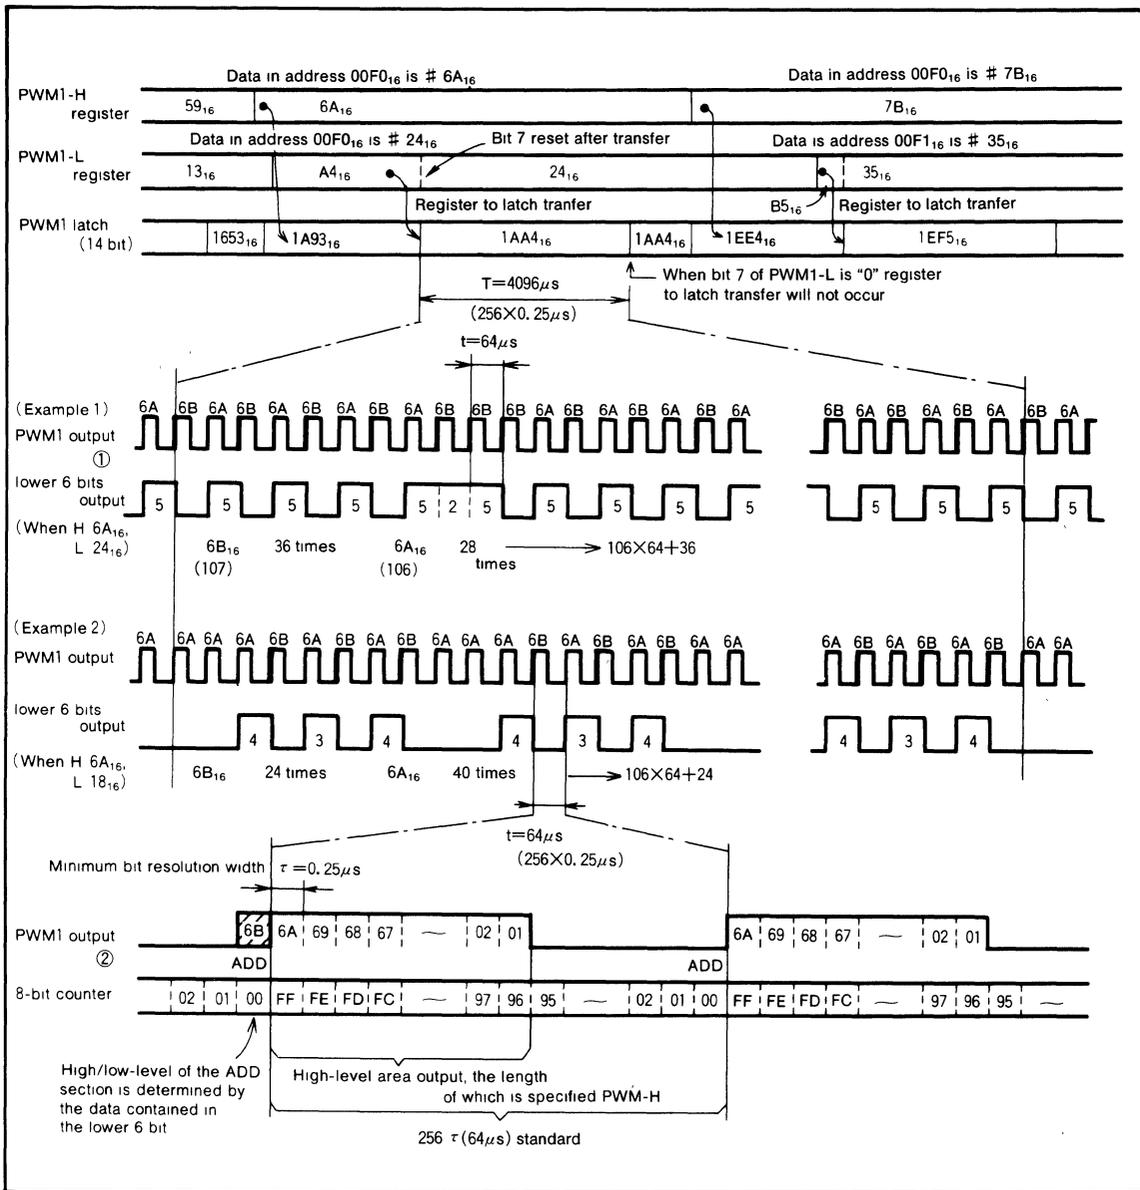

Fig.15 14-bit PWM timing diagram
The timing diagram of the 14-bit PWM1 is shown in Figure 15. The 14-bit PWM divides the data within the PWM latch into the lower 6 bits and higher 8 bits.
A high-level area within a length N times τ is output every short area of $t=256\tau=64\mu\text{s}$ as determined by data N of the higher 8 bits. (Refer to PWM output ② in the lower part of Figure 15.)